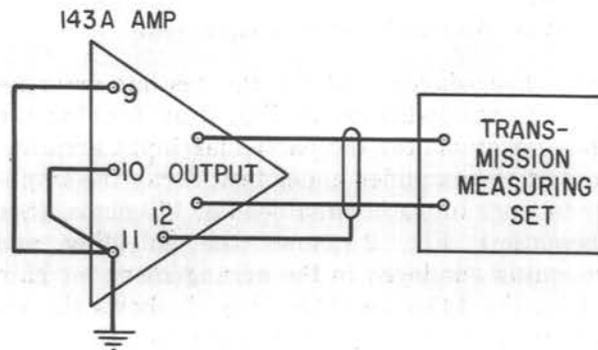
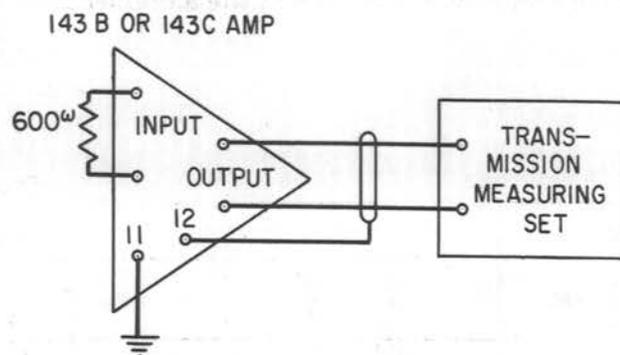

Fig. 4
Fig. 5
- (1) Energize the amplifier and set all gain controls to minimum.
- (2) Adjust the measuring set to read levels up to +10 dbm.
- (3) Set up the testing arrangement shown in Fig. 4 for testing the 143A or Fig. 5 for testing the 143B or C.
- (4) Advance the amplifier gain controls to maximum. If a steady reading of +10 dbm or higher is noted while advancing the gain control, reduce the gain control to minimum and inspect the test setup for improper connections and inadequate ground or shielding.
- (5) With the amplifier gain controls at maximum read the steady noise level on the measuring set.